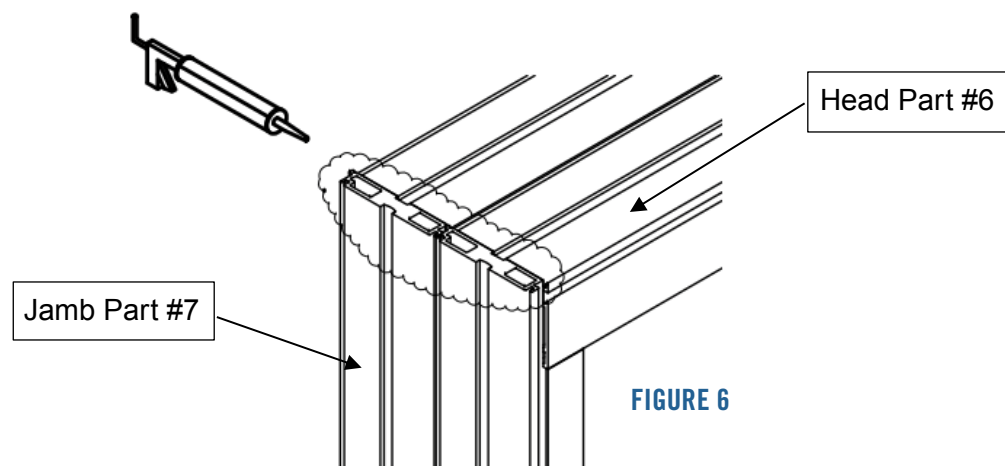

FIGURE 6
10. Make sure that each corner joint of the frame has sufficient sealant. Apply additional sealant to the corner joints as necessary to ensure a watertight seal as shown in figure 6.